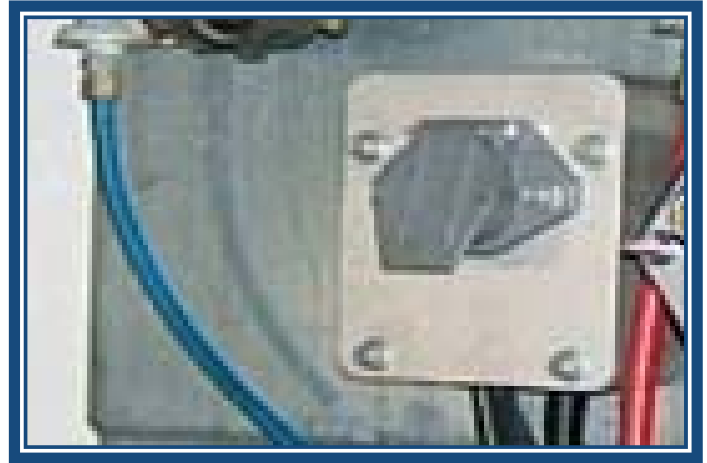

Figure 19
**Step 19:** The front of the trailer is now finished. Reinstall the 7 way nose box cover, cover any exposed wires with conduit and secure with wire ties. (See Figure 19)